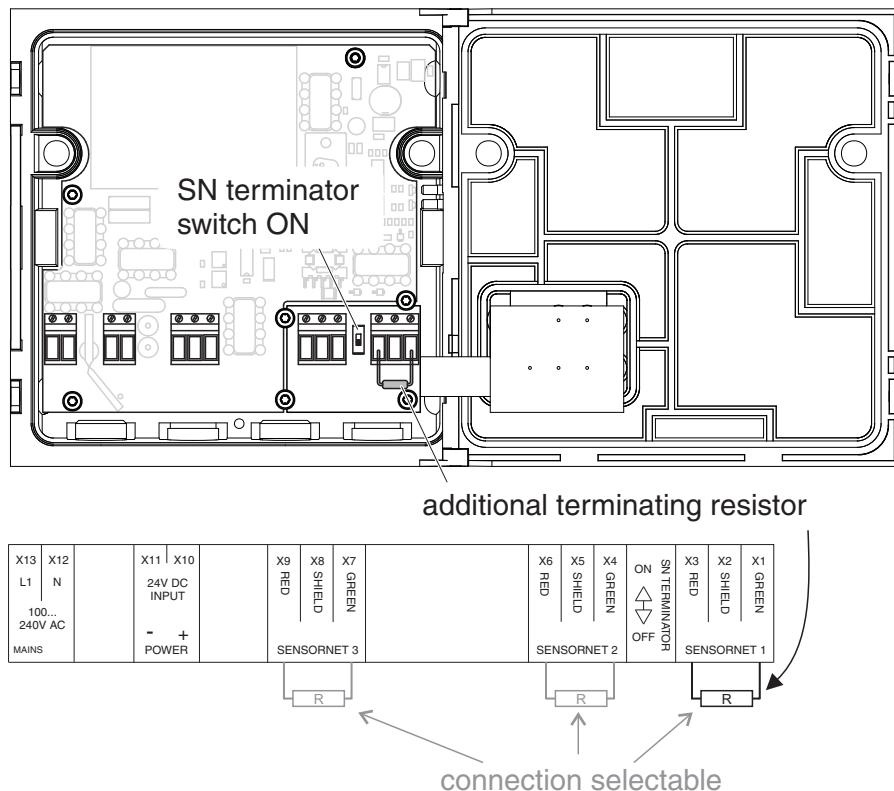

Fig. 3-1 MIQ/WL PS with additional terminating resistor
**Additional terminating resistor on the MIQ/WL PS** An additional terminating resistor is only required if, except in the MIQ/WL PS, no other terminator switch is available on the IQ SENSORNET island. The terminating resistor is connected to one of the three SENSORNET connectors (Fig. 3-1). The terminating resistor must bridge the two outside terminals of the SENSORNET connector. The SENSORNET connector can still be used to connect a sensor.